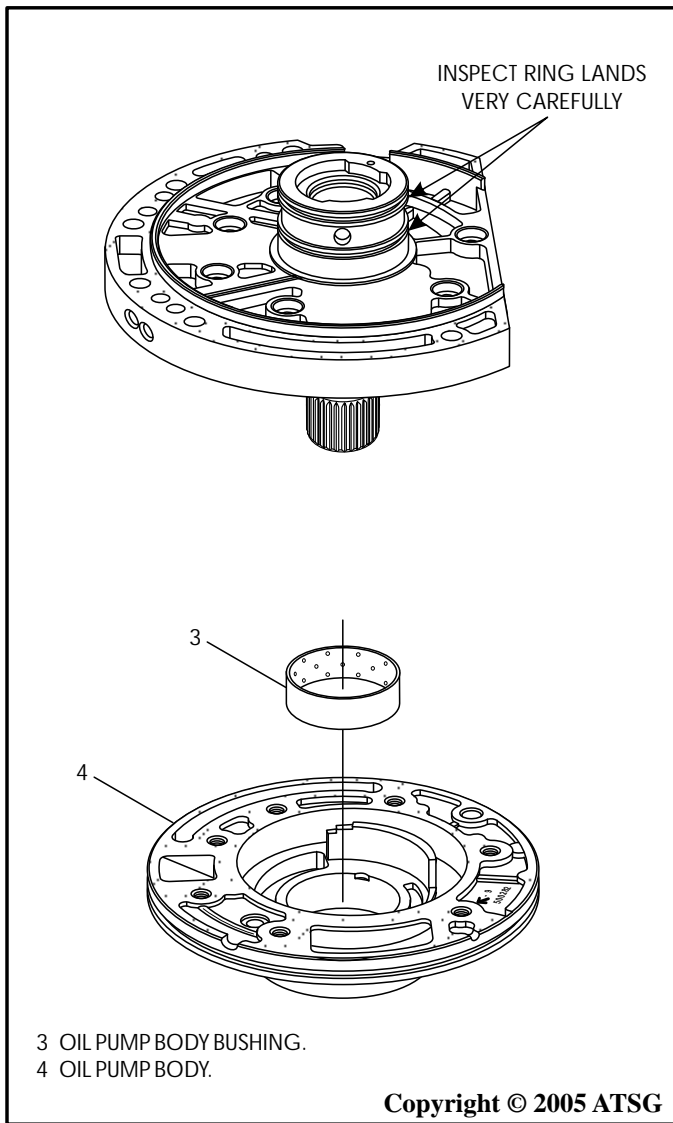

Figure 131
**Note:** *Inspect ring lands on the pump cover very carefully, as shown in Figure 131. It is very common to see wear here.*
5. Install new oil pump bushing if necessary, as shown in Figure 131, using the proper bushing driver.